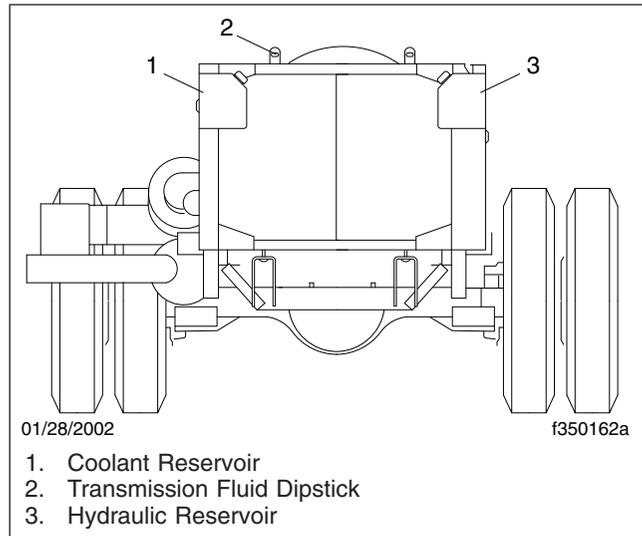
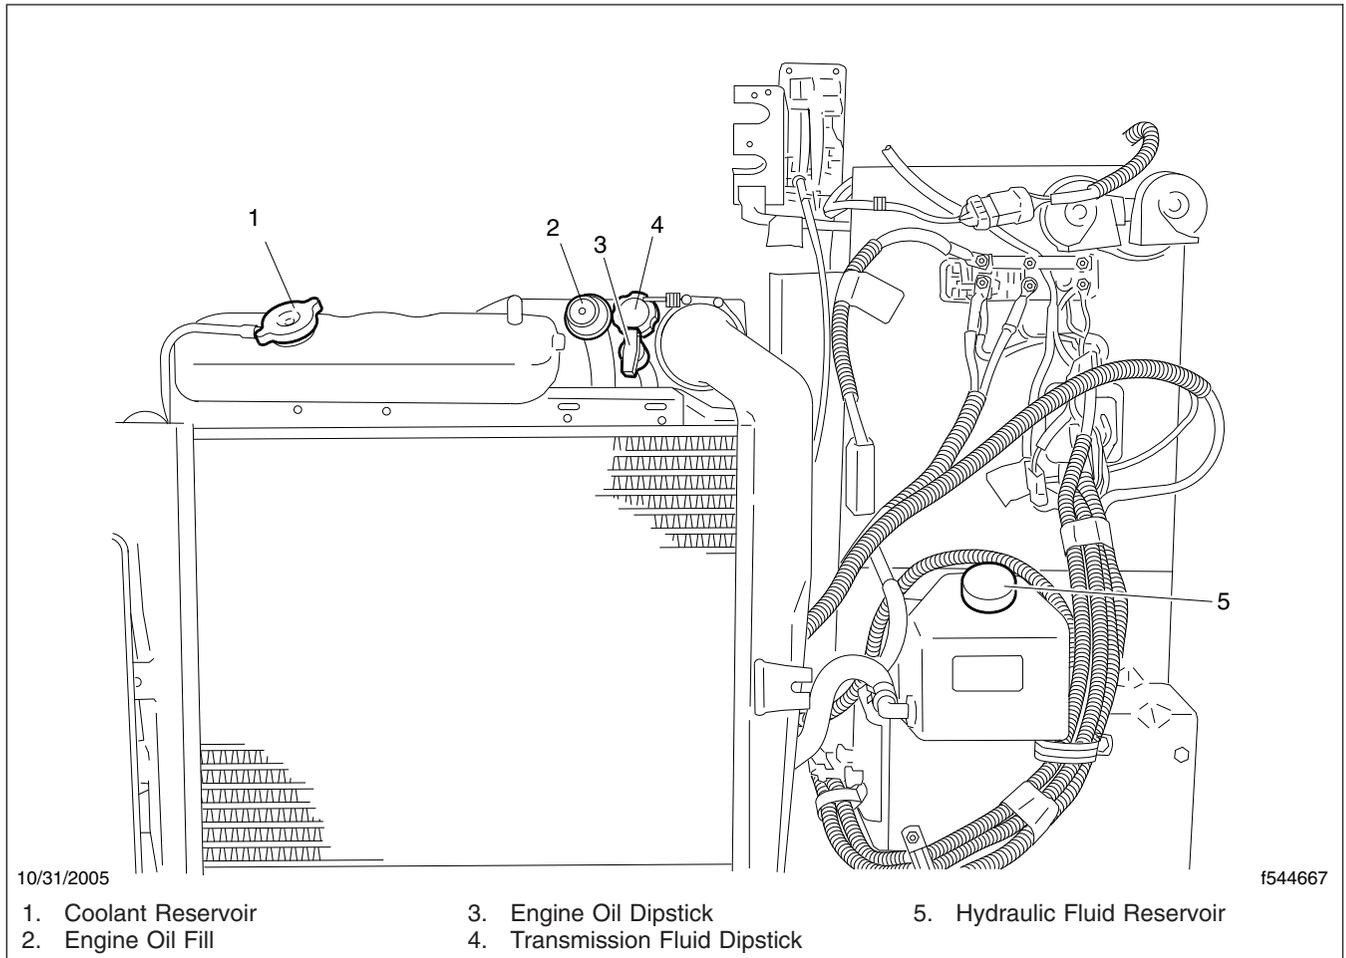

Fig. 10.7, Transmission Fluid Level Check
Fig. 10.8, Transmission Fluid Level Check (front-engine diesel chassis)
22. Check the oil level in the automatic transmission. See **Fig. 10.7** and **Fig. 10.8**.